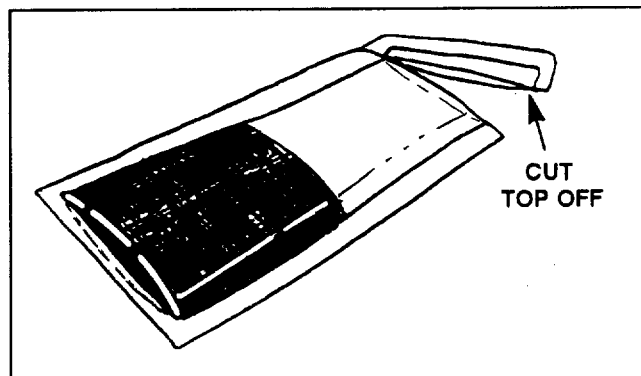

Figure 9
1. Squeeze epoxy to one end of the bag and cut the top off the other end (Fig. 9).